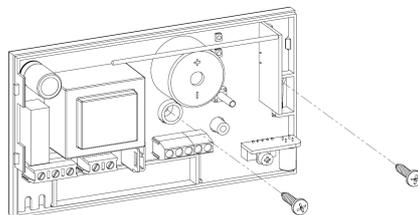

Fig. 3
2. Attach the base of the gas detector to a 2 module junction box through the two screw slots with a hole to hole distance of 60 mm ensuring that wiring is made through the cable slot as shown in Fig. 3.